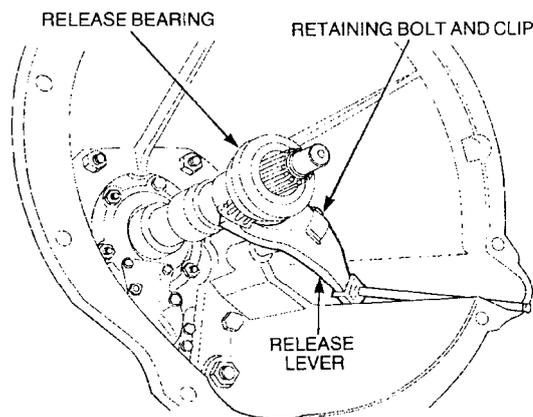

Figure 151 Removing the Release Lever and Bearing
- c. Remove the bolt and clip retaining the release lever to the pivot (Figure 151). Remove the lever and the release bearing.